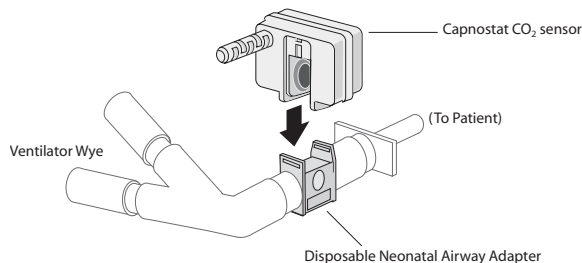

Figure 4
4. When using the Neonatal/Pediatric Airway Adapter, place the Capnostat[®]/Airway Adapter assembly at the proximal end of the airway circuit between the endotracheal tube and the ventilator circuit wye. Position the airway adapter with its windows in a vertical, NOT a horizontal, position. This helps keep patient secretions from "pooling" on the windows. If pooling does occur, the airway adapter may be removed from the circuit, rinsed with water and reinserted into the circuit. To prevent moisture from draining into the airway adapter, do NOT place the airway adapter in a gravity dependent position (see Figure 4).